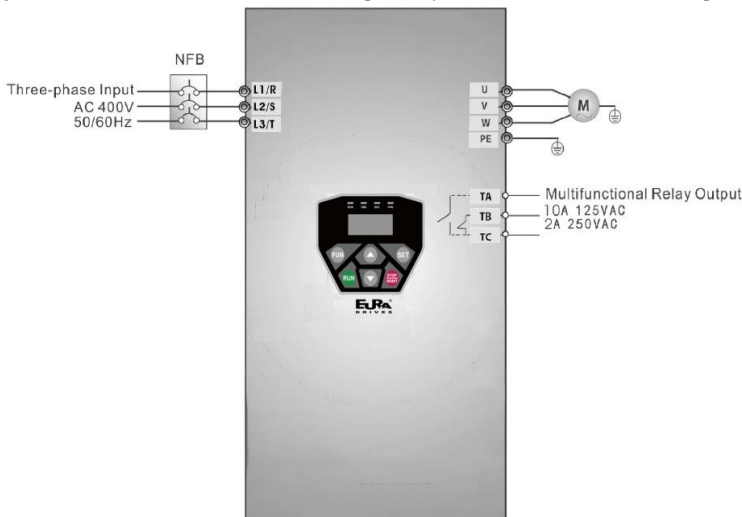

Figure 5-1 Wiring Diagram
- (1) Connect the wires in accordance with Figure 5-1. After having checked the wiring successfully, switch on the air switch, and power on the inverter.
- (2) Press the “Fun” key, to enter the programming menu.
- (3) Set functional parameters of the inverter:
- (1) Connect the wires in accordance with Figure 5-1. After having checked the wiring successfully, switch on the air switch, and power on the inverter;